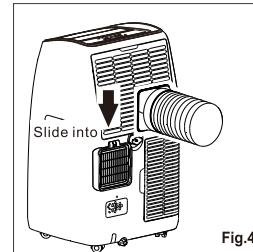

Fig.4
5. Install the hose inlet into the unit (Fig.4).